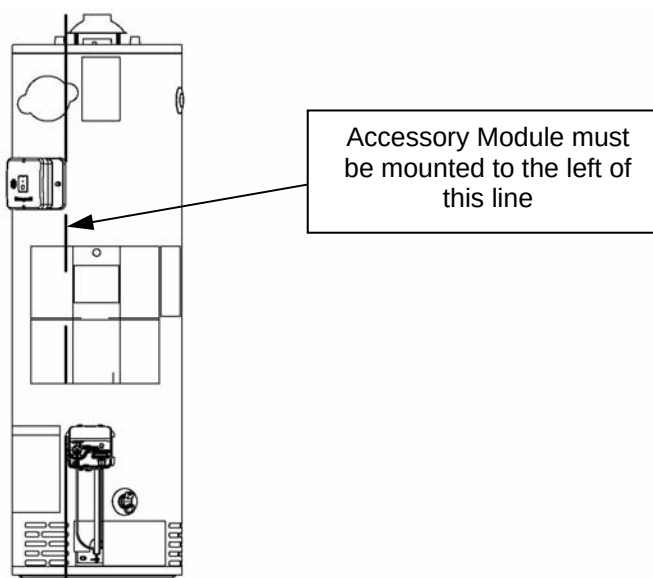

**Figure 4**
Step 4: The Accessory Module must be mounted to the left of the water heater gas control. Hold the Accessory Module to the water heater jacket as high as possible and practical. Do not cover any safety or warning labels on the water heater. This is shown in Figure 4.